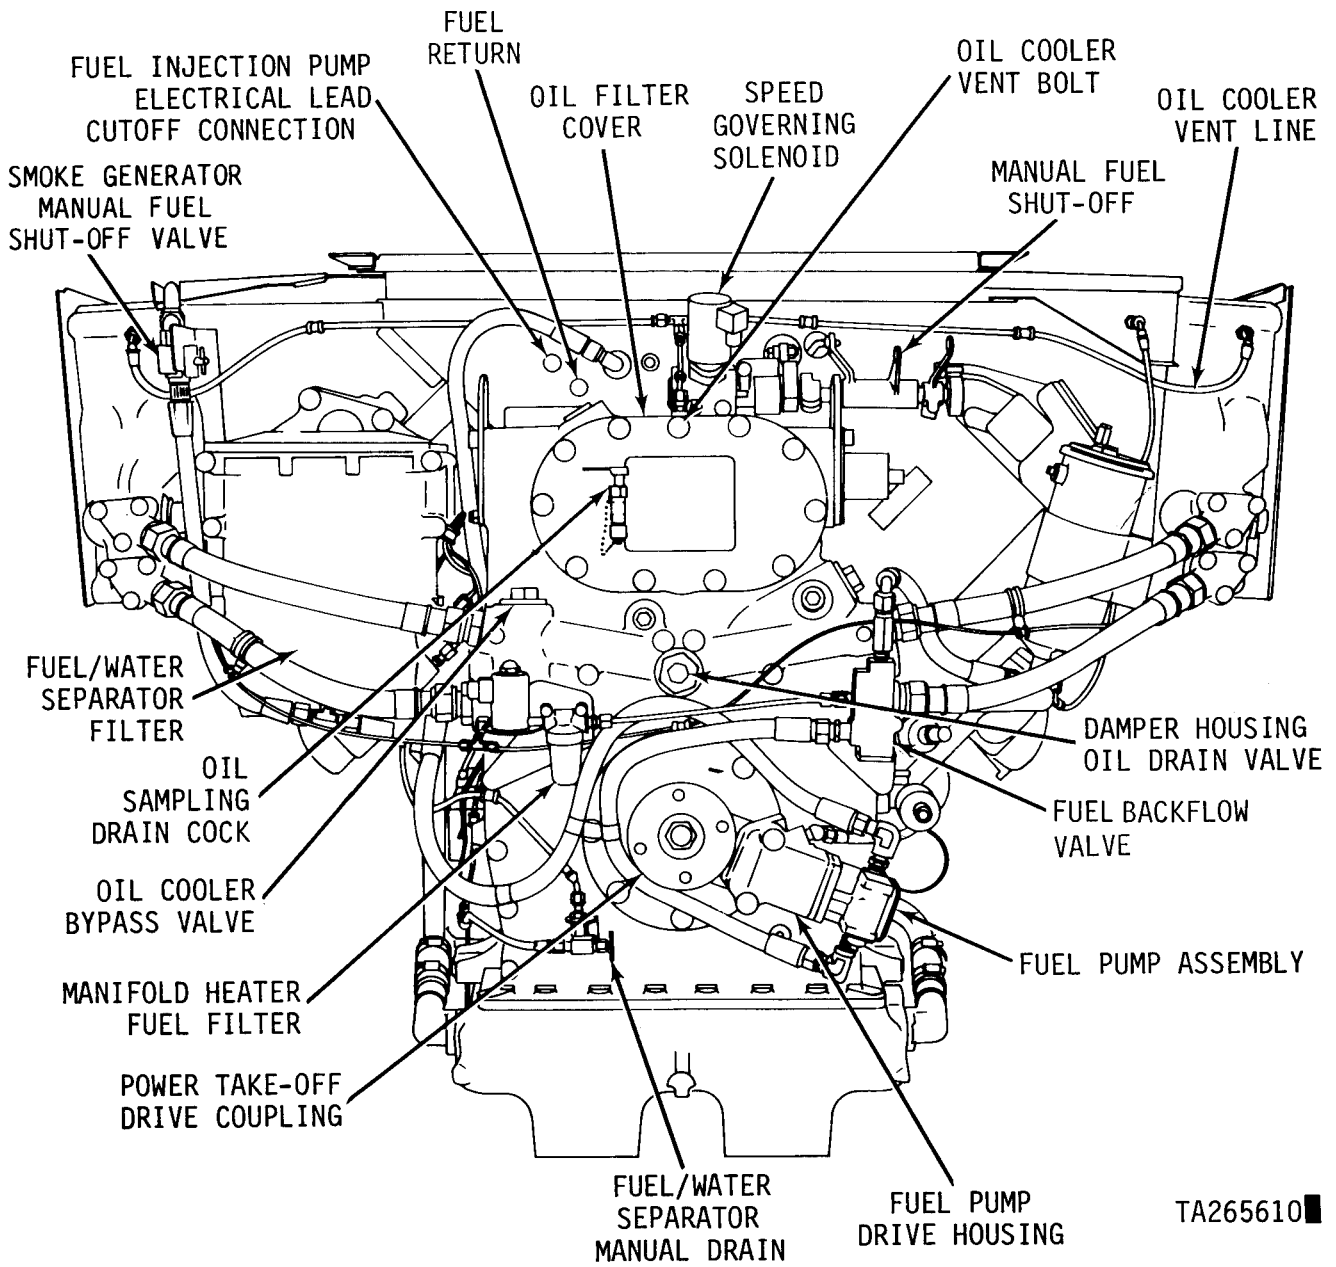

Figure 1-7.3. AVDS-1790-2DR engine assembly - front view.
f. Oil Sampling Drain Cock. An oil sampling drain cock (fig. 1-7.3) is located on the oil filter cover of the Model AVDS-1790-2DR engine. The drain cock permits sampling of the engine oil to determine if its condition warrants an oil change.